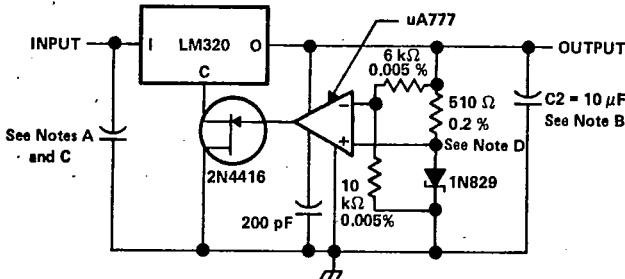

FIGURE 13 — HIGH-STABILITY REGULATOR
- C. In Figure 13 capacitor C1 is solid tantalum.